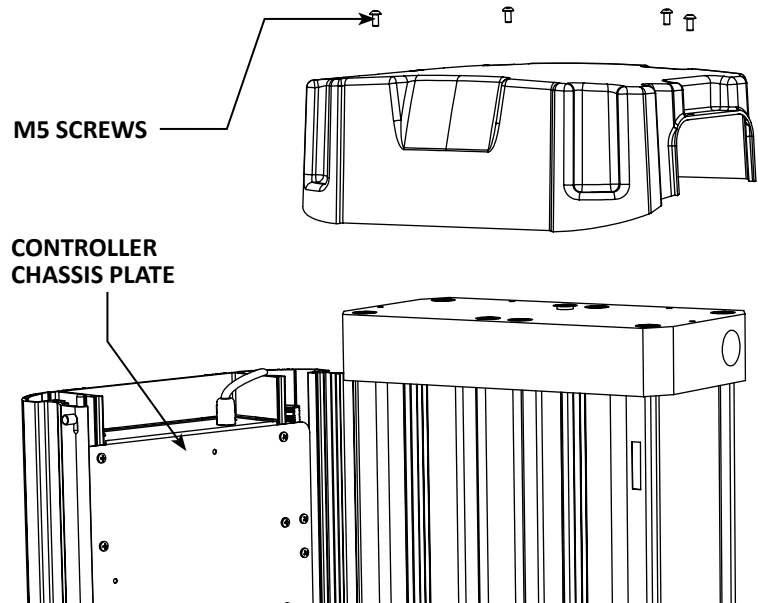

Figure 1.
7. Reattach the 4x solenoid coils and 4x solenoid plugs. (See figure 1)
2. Loosen the 4x M5 screws to remove the top cover. (See Figure 1)
10. Replace the top cover and insert the 4x M5 screws. These screws should be hand tightened only. (See Figure 1)
2. Place a magnet over the controller reset area shown in Figure 1 for 8-10 seconds until the dryer re-sets. (See Figure 1)